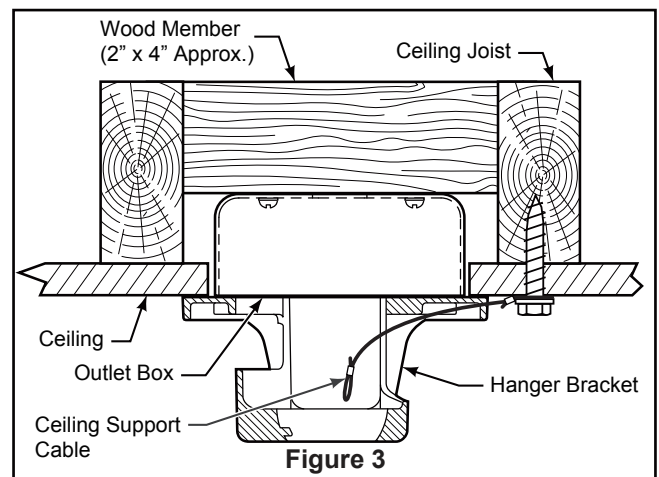

Figure 3
3. Loosen the two set screws and locking nuts in the downrod support of the motor assembly. Route the black, blue, white wires and safety cable through the downrod. (Figure 3)
1. Securely attach the hanger bracket to the outlet box using the outlet box screws and washers supplied with the outlet box. (Figure 3)
2. Drill a 1/4" pilot hole into the building structure to prevent splitting or cracking with installation of the lag bolt. Using the 3/8" x 2" lag bolt and flat washer, attach safety cable to ceiling joist or wood structural member. The lag bolt will pass through the flat washer, safety cable loop, and into the building structure. (Figure 3) **NOTE:** Ceiling support cable cannot be secured to outlet box only, it must be directly secured to ceiling joist or structural member using the 3/8" x 2" lag bolt and flat washer. (Figure 3)